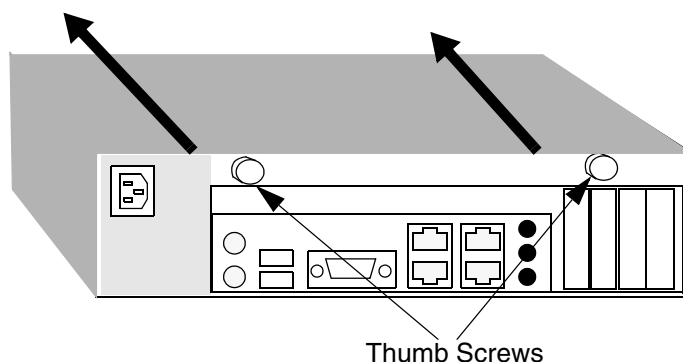

Figure 3. Removing the Cover—Rear View
3. Remove the two thumbscrews at the top of the rear panel; see Figure 3.